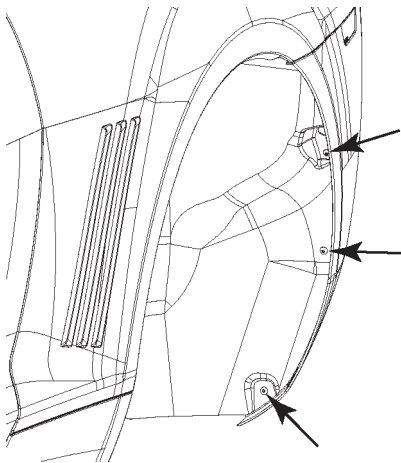

FIGURE 4
6. Remove wheel liner screws using a T15 Torx bit. 3 per side, retain. Refer to figure 4.